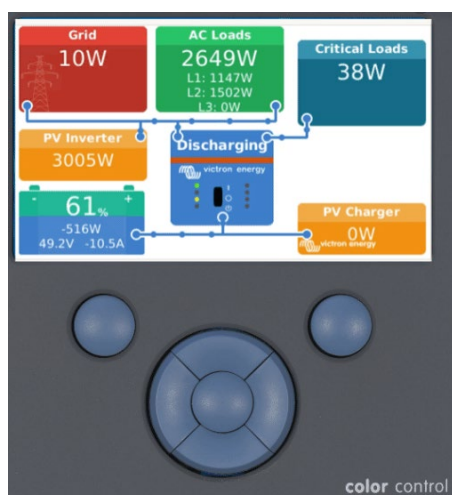
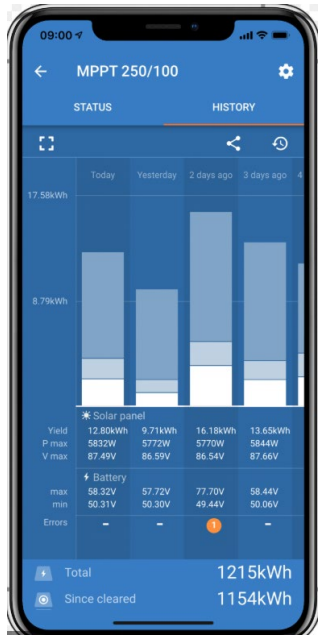

Figure 13: System Status Display
Figure 14: Cell phone link to Charge Controller
- Check for error codes or LED indication on devices. Some devices have a port or Bluetooth/Wi-Fi connection from where certain information on the device can be viewed or diagnostics can be performed. Other systems have dedicated displays that indicate the system status and operation (see Figure 13 & Figure 14);